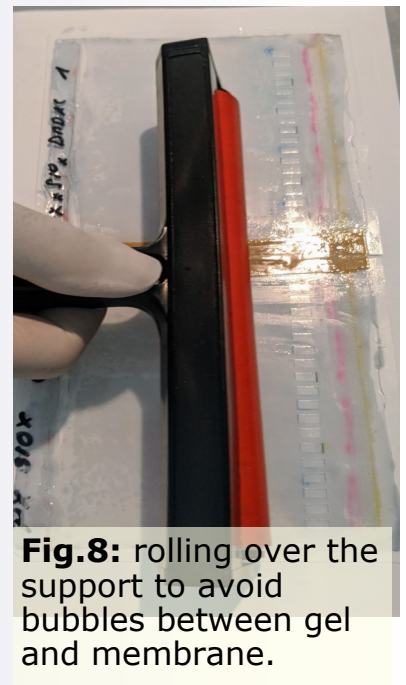

Fig.8: rolling over the support to avoid bubbles between gel and membrane.
4. Press the gel bubblefree on the blotting membrane using a tissue and then a roller. Figure 8.